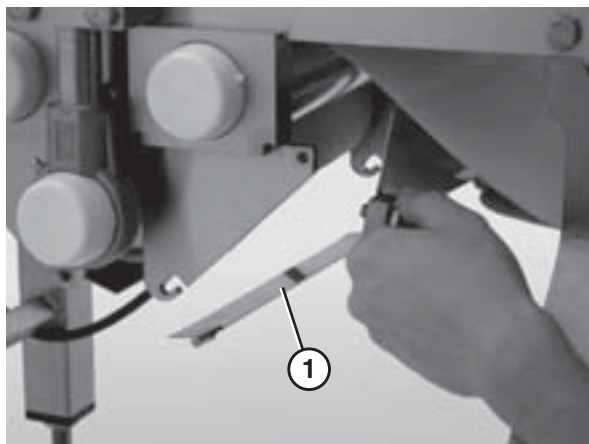

Figure 45
3. Lift up on the center drive guard (Figure 45, item 1) and remove it.